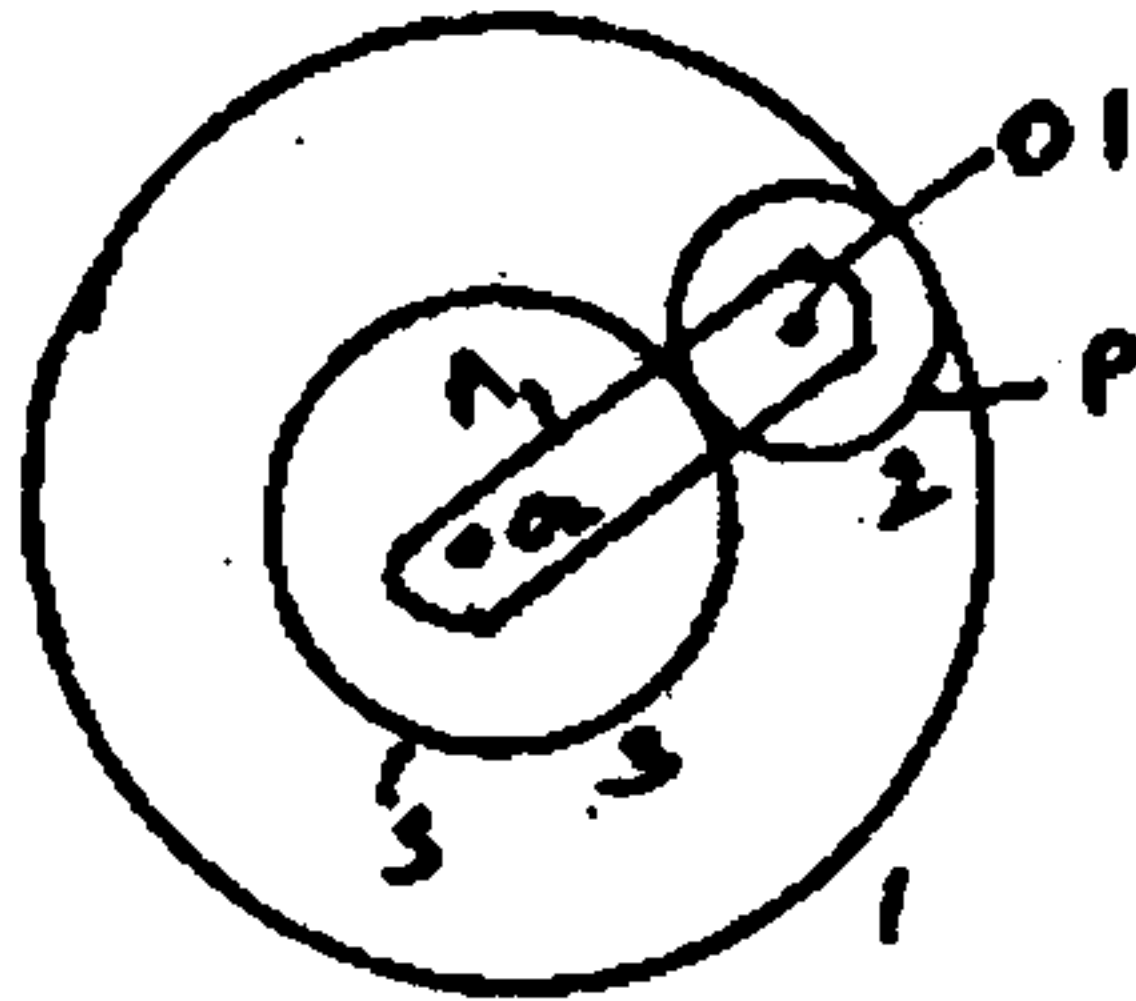

Fig. 6
- (b) (i) An epicyclic gear train consists of three gears 1, 2 and 3 as shown in fig.6 the internal gear 1 has 72 teeth and gear 3 has 32 teeth. The gear 2 meshes with both gear 1 and gear 3 and is carried on an arm A. which rotates about the centre  $O_2$  at 20 rpm. If the gear 1 is fixed, determine the speed of gears 2 and 3. (12)